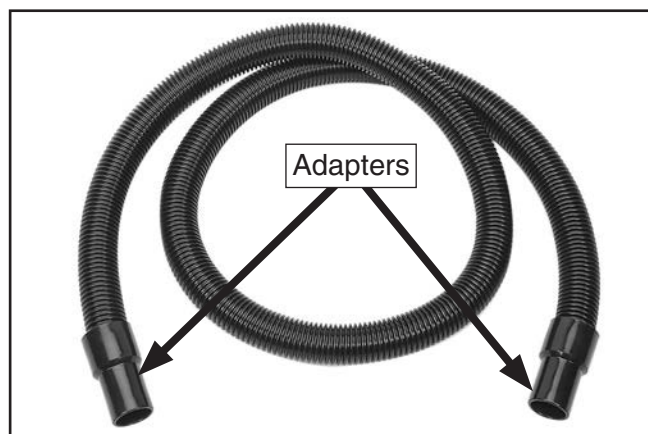

Figure 32. Adapters attached to dust hose.
1. Attach a dust hose adapter to each end of dust hose (see **Figure 32**).